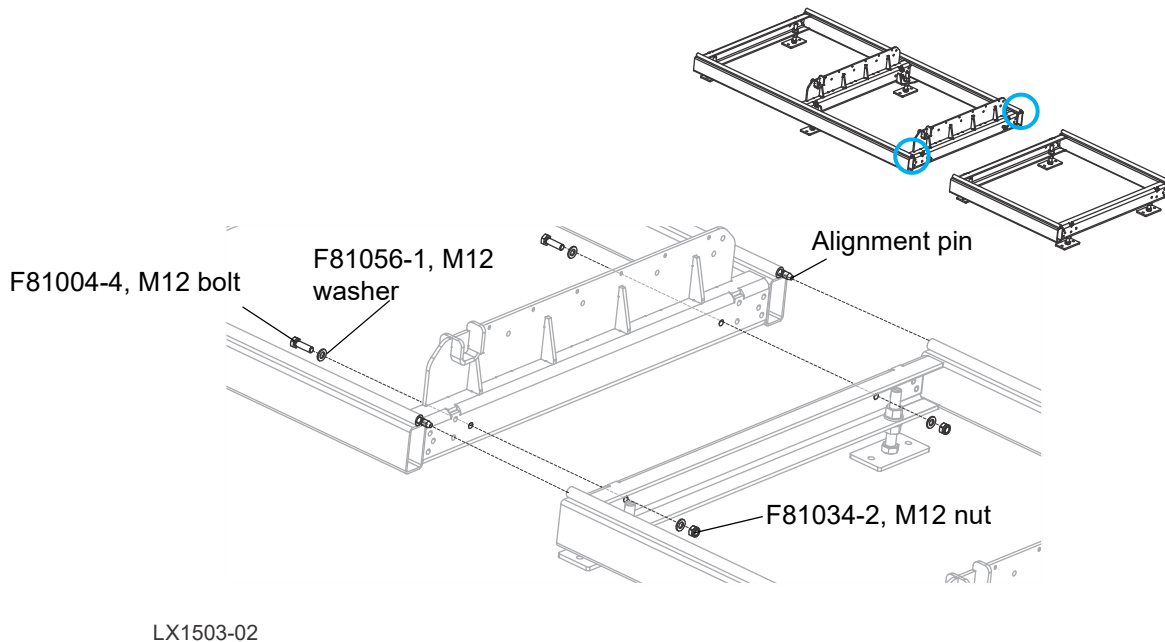

FIG. 3-6
4. Slide the sections together as shown in Figure 3-6.
See Figure 3-6.
6. Secure the bed sections together as shown in Figure 3-6, drawing the top surface together smoothly.